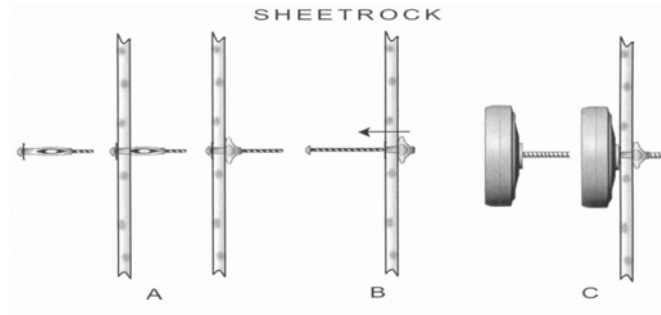

**Figure 3**
3. Screw the transducer clockwise into the pilot hole until it is flush to the surface. **DO NOT TIGHTEN EXCESSIVELY.** (Figure 3)
3. Thread the Screw Adapter in the transducer, (figure 3)